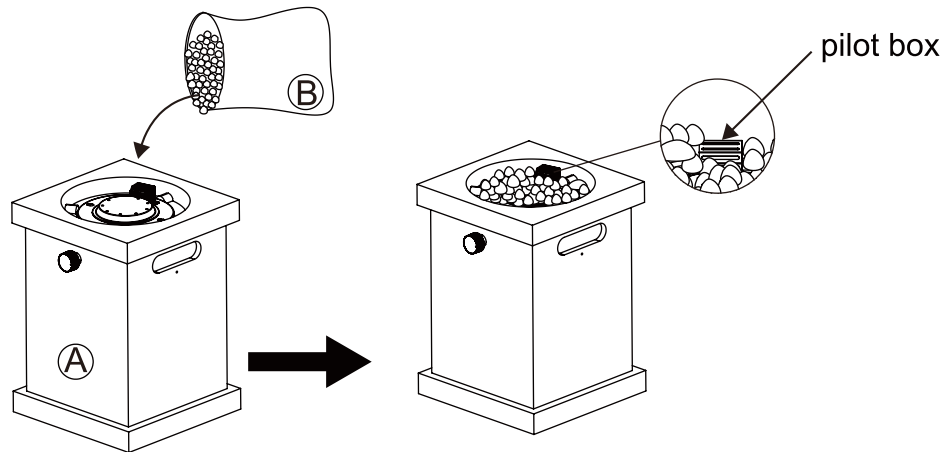

Figure 5
6. Place the lava rocks (B) into the fire pit body (A). Approx lava rock 1.1 lbs of lava rocks are needed (See Figure 5) .